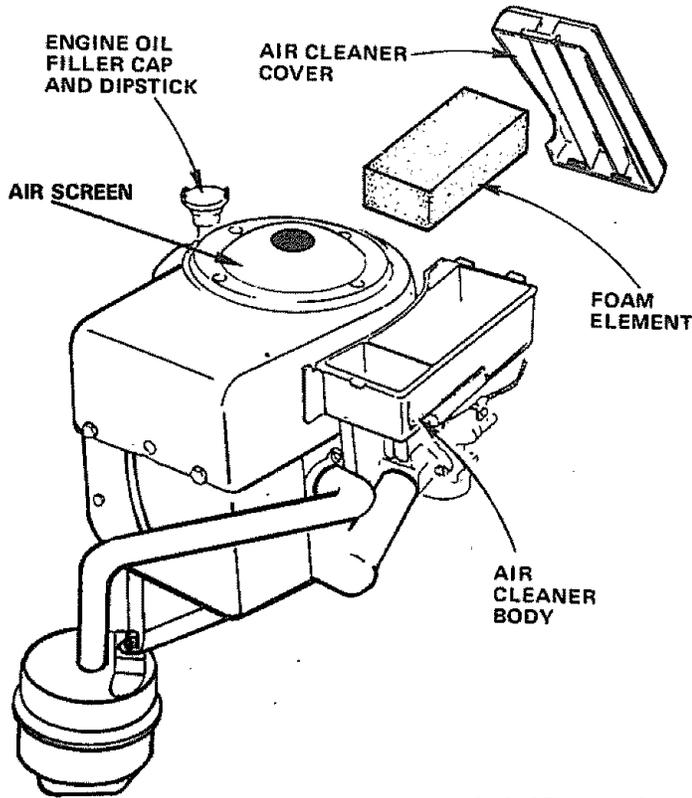

FIGURE 23
4. Clean Air Cleaner Element (Fig. 23)
Air screen (Fig. 23) must be kept free of dirt and chaff to prevent engine damage from overheating.